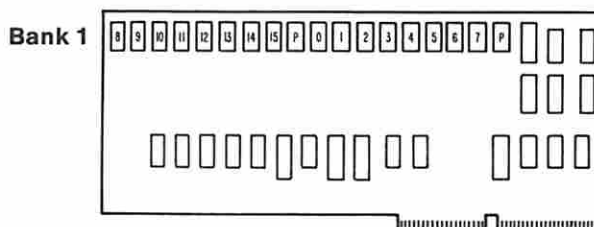

Figure 5. 128KB Memory Expansion Option
- Refer to Figure 5 on page 0200-9 and find the failing memory module identified by the error code.